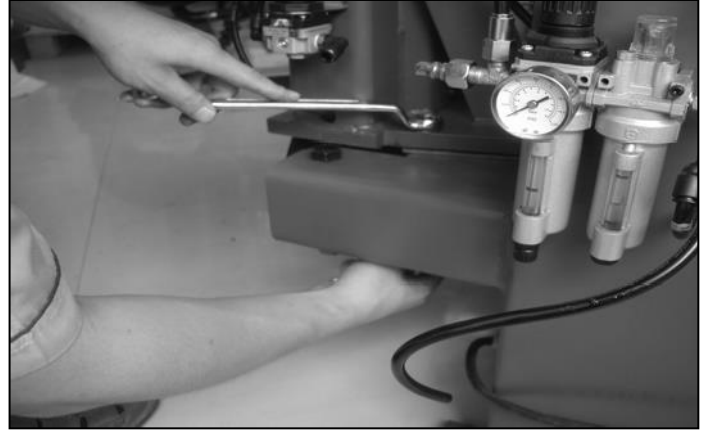

FIG57
6.3.3 Upright the body of the assistant on the cushion and use the screw(fig52-5) to fix Insert the corresponding screw (fig56) , assemble the flat washer and use the nut to tight (fig57) .